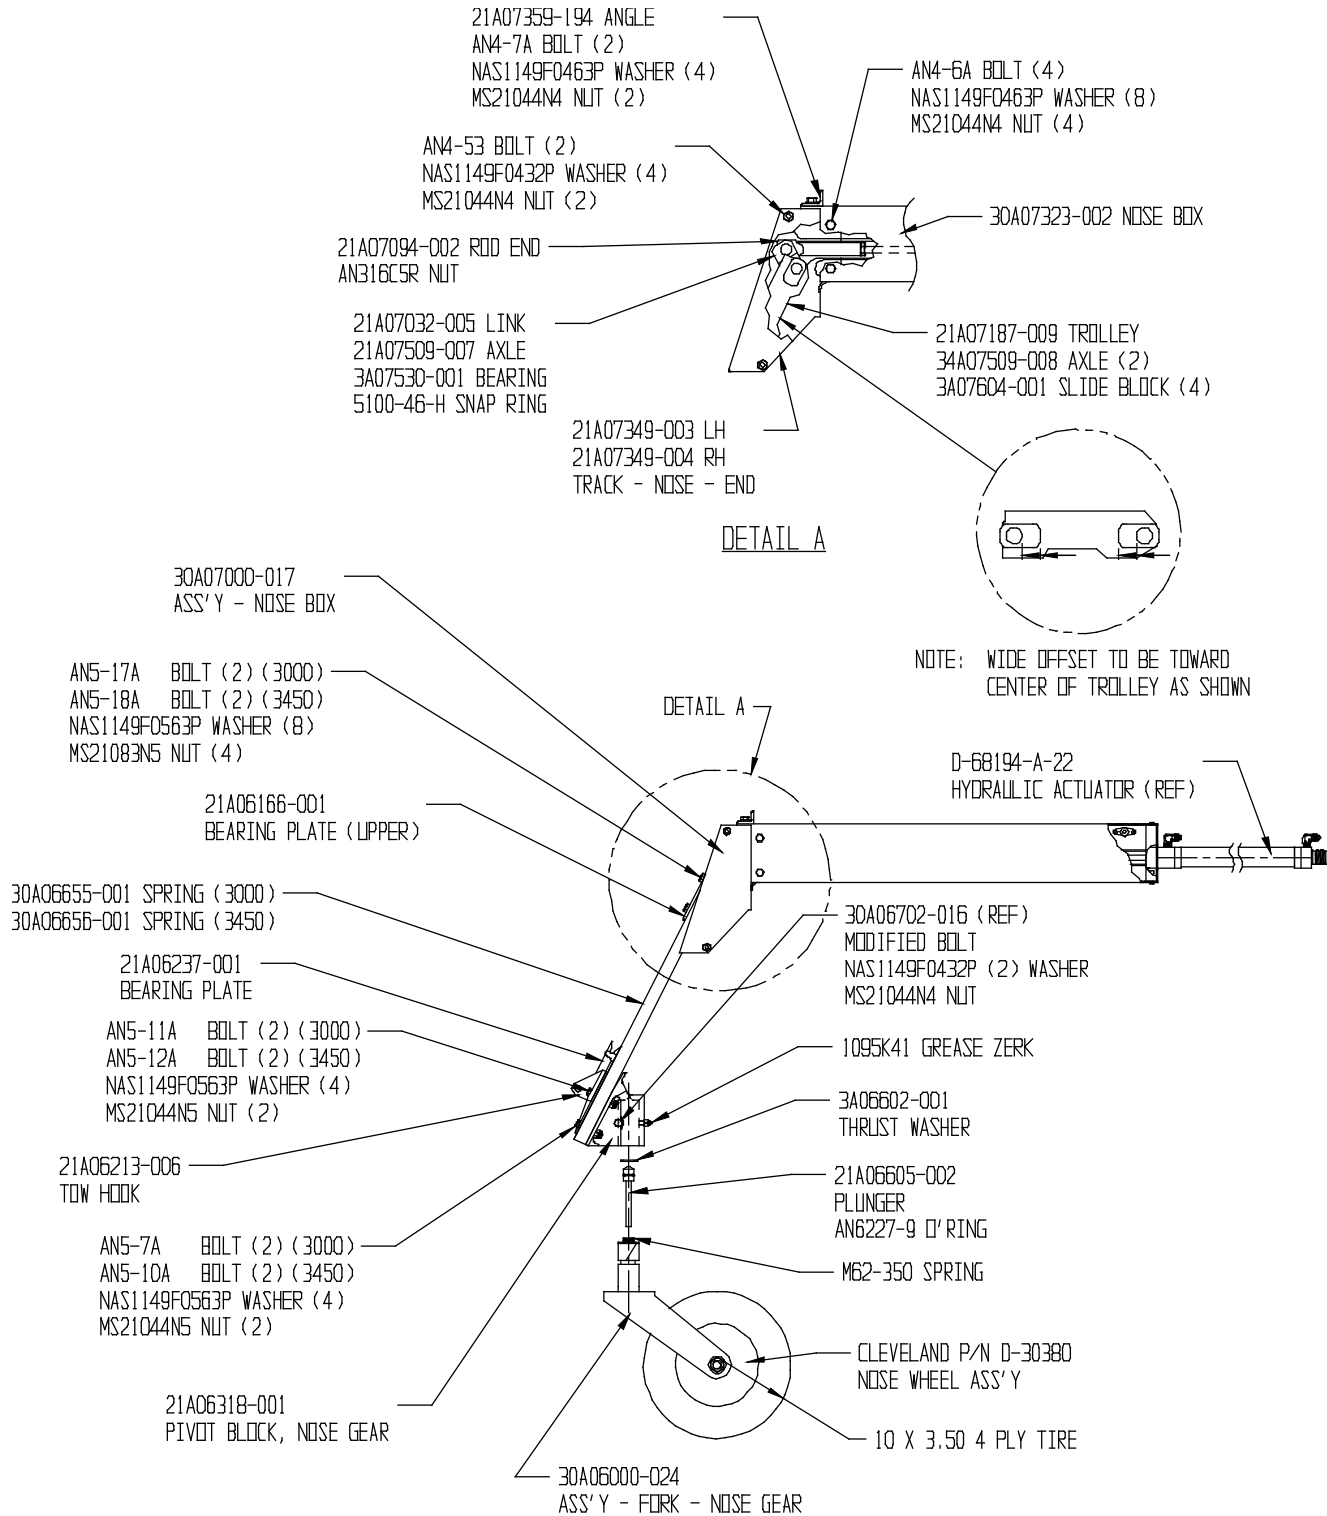
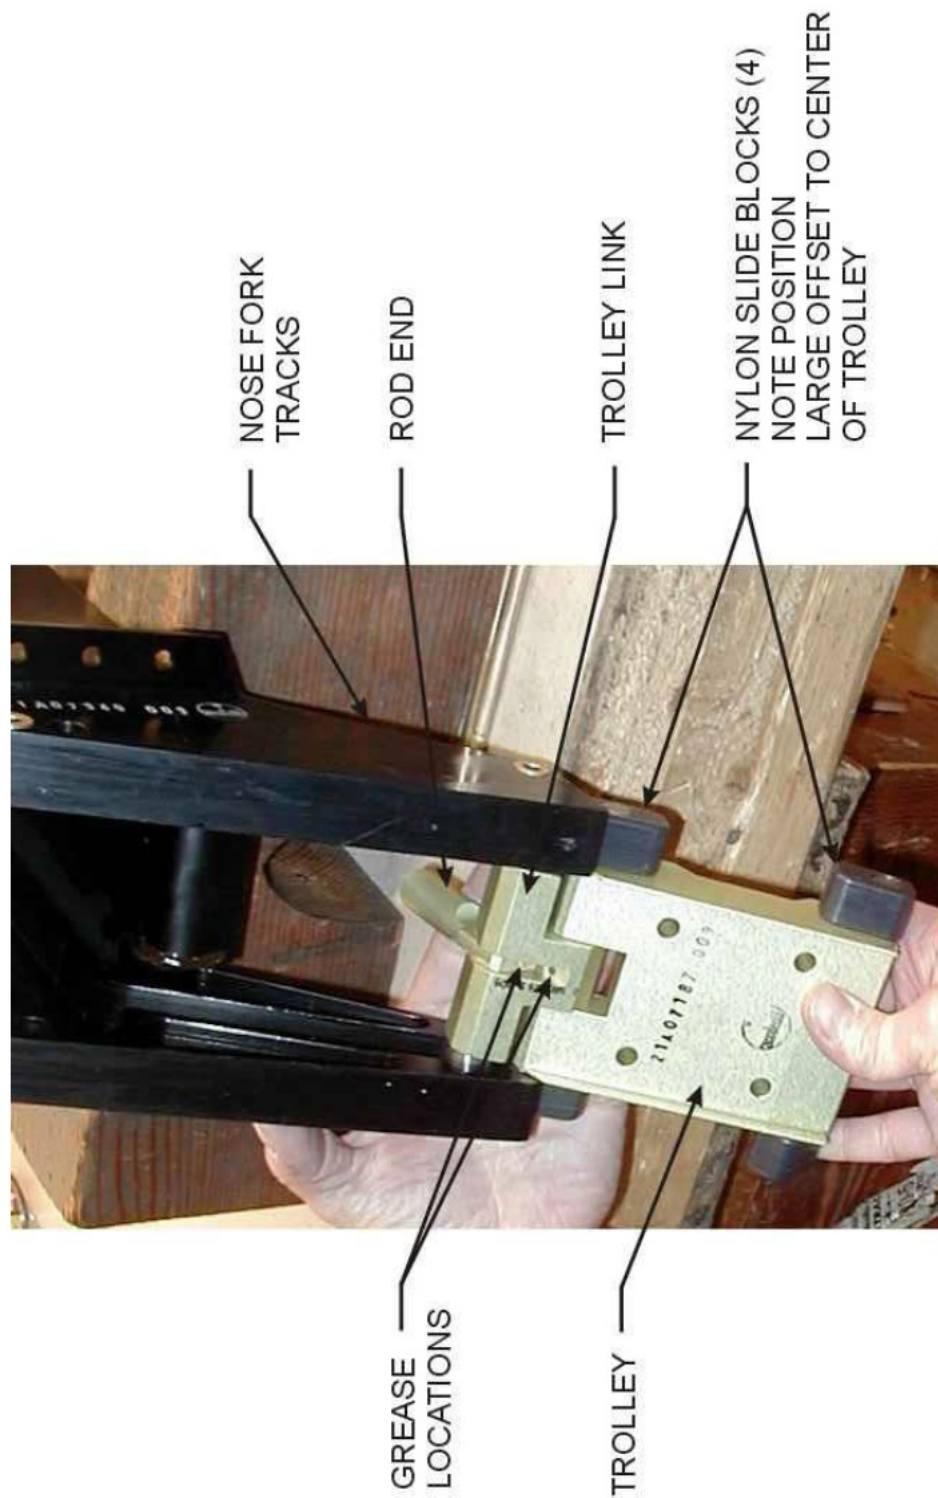

FIGURE 7-1 NOSE GEAR RETRACTION SYSTEM
FIGURE 7-4 POSITION OF TROLLEY TO NOSE BOX
The nose gear is a reinforced fiberglass spring that is attached at the upper end to a trolley block. This trolley moves fore and aft hydraulically in tracks that are part of the nose box sides. This trolley is guided in the tracks by nylon slide blocks. A down stop is located on the forward end of the trolley. The lower end of the spring is attached to a pivot block. Inside the block is a castering pin that is attached to the nose wheel fork. This pin in normal taxiing is free castering. In the air the pin is locked so wheel trails in landing position. The up lock is on the lower bearing plate (opposite side of pivot block). The slot in this plate mates in the upper ¼ inch diameter bolt near top of the nose box. A tow lug is provided on the lower end of each spring (refer to Figure 7-1).
1. If installing rod end and trolley link to trolley, note position of grease hole, it has to be positioned up (refer to Figure 7-4).
2. Before inserting trolley in nose box, take care to position nylon slide blocks. Position as noted on Figure 7-1 and Figure 7-4.
3. Assemble per Figure 7-1.